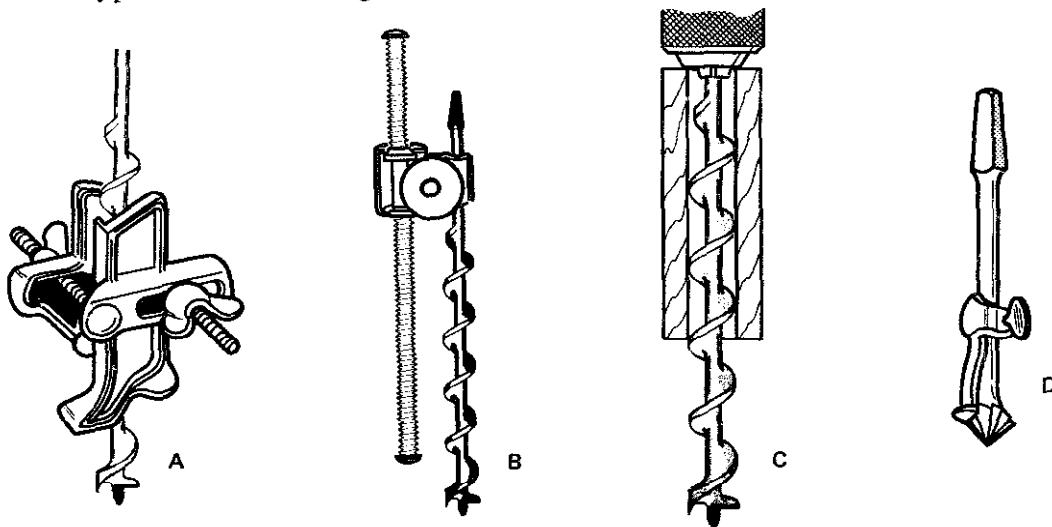

Fig. 10-39 Types of bit gauges.
NOTE: When drilling or boring a hole to a certain depth, one of several types of bit gauges is used. Bit gauges are made to clamp or fit to an auger bit or countersink. Several types are shown in figure 10-39.
9. Use the other types of gauges in a like manner. For type B, figure 10-39, the stop is fastened to the shank.